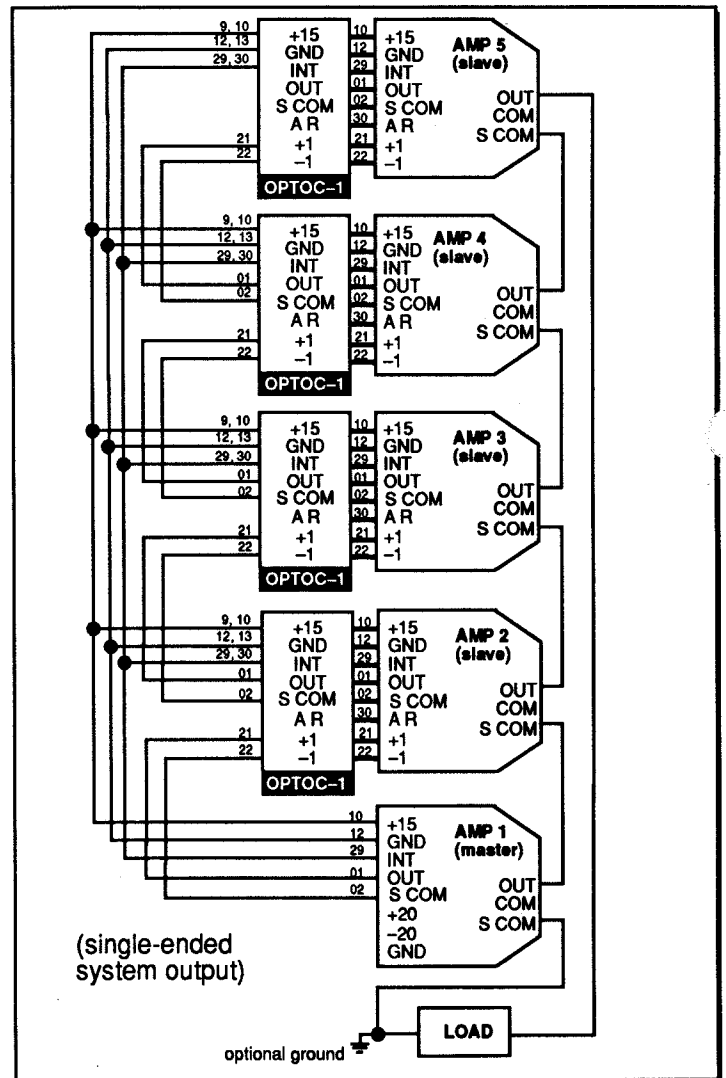
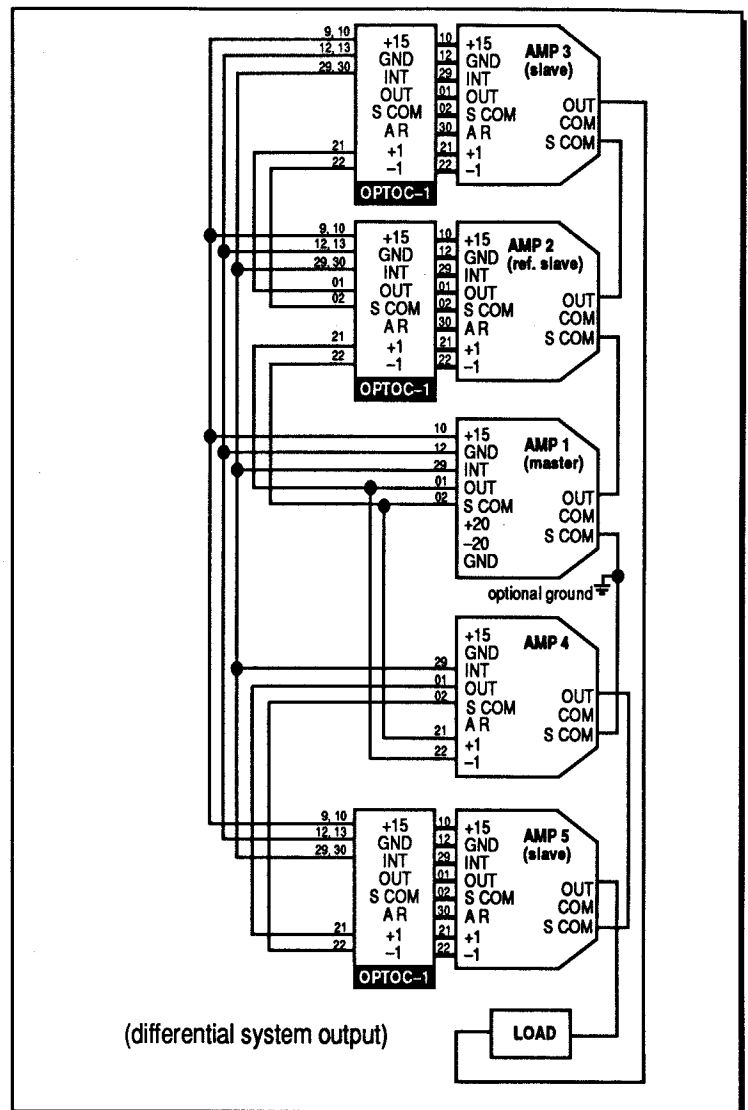

Figure 4 Series Stack Using OPTOC-1
Figure 5 Alternate Series Stack Using OPTOC-1
- The common mode range of the +1 and -1 inputs is one output level. In other words, when you connect more than two levels of series-configured, 7700 amplifiers, you must use an amplifier's output with lower potential (nearer the master) to reference the input signal of the next level amplifier. See Figure 4.
A. Figures 4 and 5 show an acceptable number of levels of amplifiers. While Figure 4 shows all amplifiers in a true stacked series configuration, Figure 5 uses one less OPTOC-1, showing amplifiers 1-3 in stacked series and amplifiers 4 and 5 in stacked series. Amplifiers 4 and 5 are in push-pull series mode with the master.
B. Figure 4 shows that, when stacked in series, an amplifier needs to be referenced to the output of the amplifier immediately preceding it. Amplifiers 2, 3, and 4 are referencing slaves because they provide a reference for the amplifier immediately after (above) them.
Amplifier 4 in Figure 5 is referenced to amplifier 1, because it is in a push-pull series configuration with the master amplifier (amplifier 1). Amplifier 5 is referenced to amplifier 4. Amplifiers 4 and 5 are out of phase with the master amplifier. The configuration shown in Figure 5 is generally more desirable than the Figure 4 configuration because of cost (one less OPTOC-1) and better phase response (through more direct signal coupling).
C. With multiple amplifier systems, overall system phase response will be improved if the signal path is kept as short as possible. Figures 6a and 6b are simplified representations of Figure 4 and Figure 5 respectively. Figure 6c shows the optimum signal path for a 2X4 (2 parallel, 4 series amplifiers) system configuration.